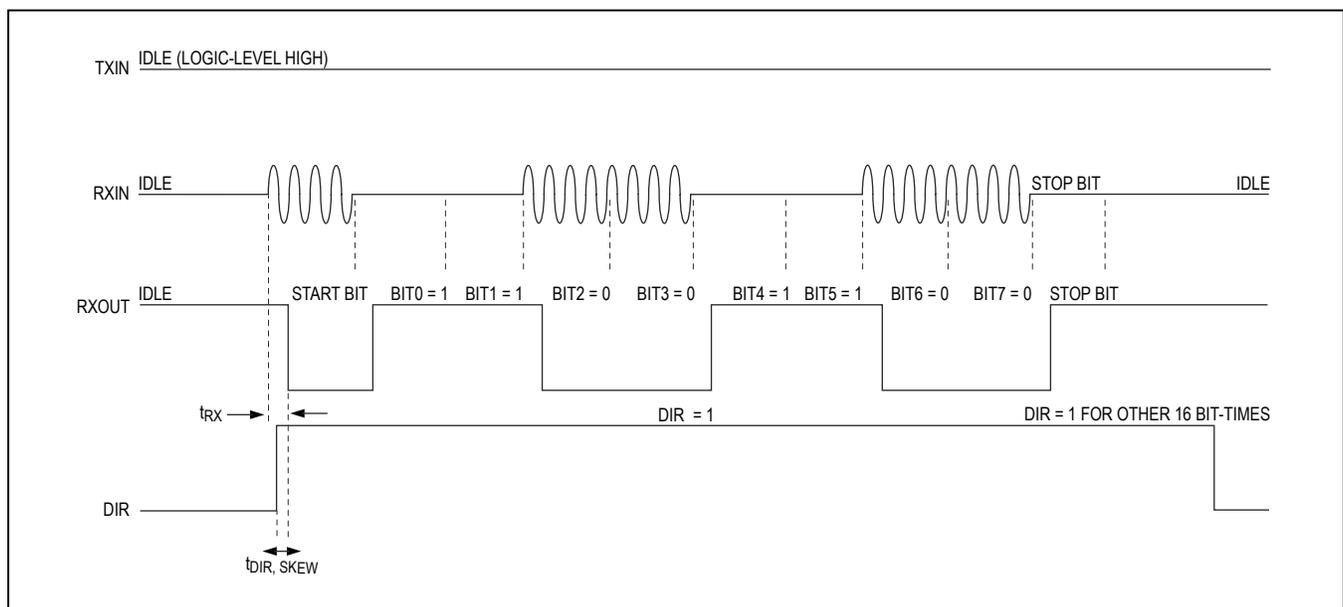
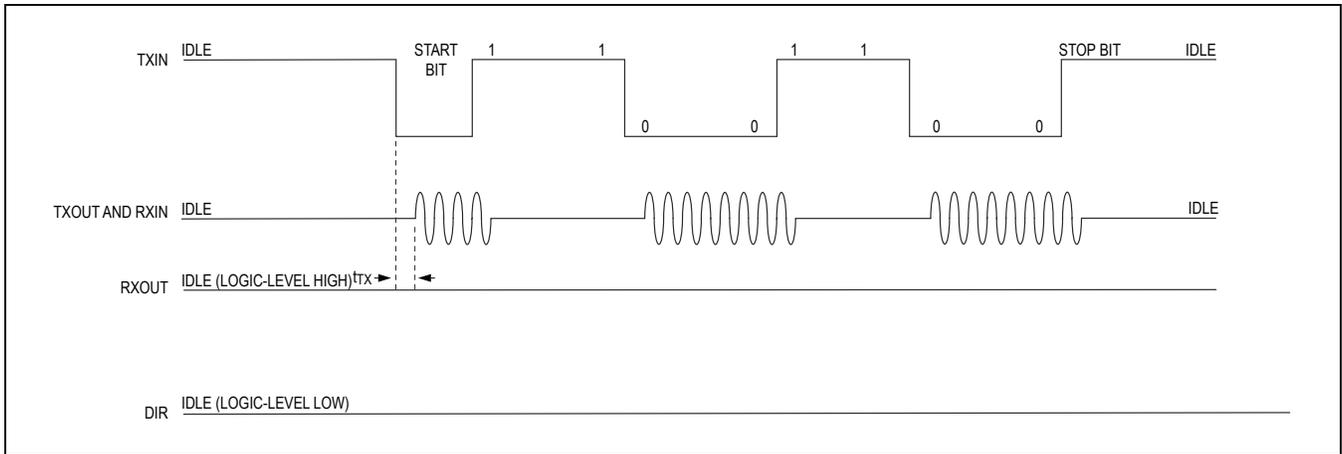

Figure 1. The MAX9947 on the Tower: Communication Flow is from the Base to the Tower
Figure 2. The MAX9947 on the Tower: Communication Flow is from the Tower to the Base
- Note 8:** See Figure 1.
Figure 1 and Figure 2 show the timing diagrams of the DIR functionality. When the data flows from RXIN to RXOUT, DIR remains high for 16 bit-times after the last logic-level low bit within the 8-bit protocol data. This is compliant with the AISG specification saying that the RS-485 transmitter stops driving the bus within 20 bit-times after the last stop bit is sent.